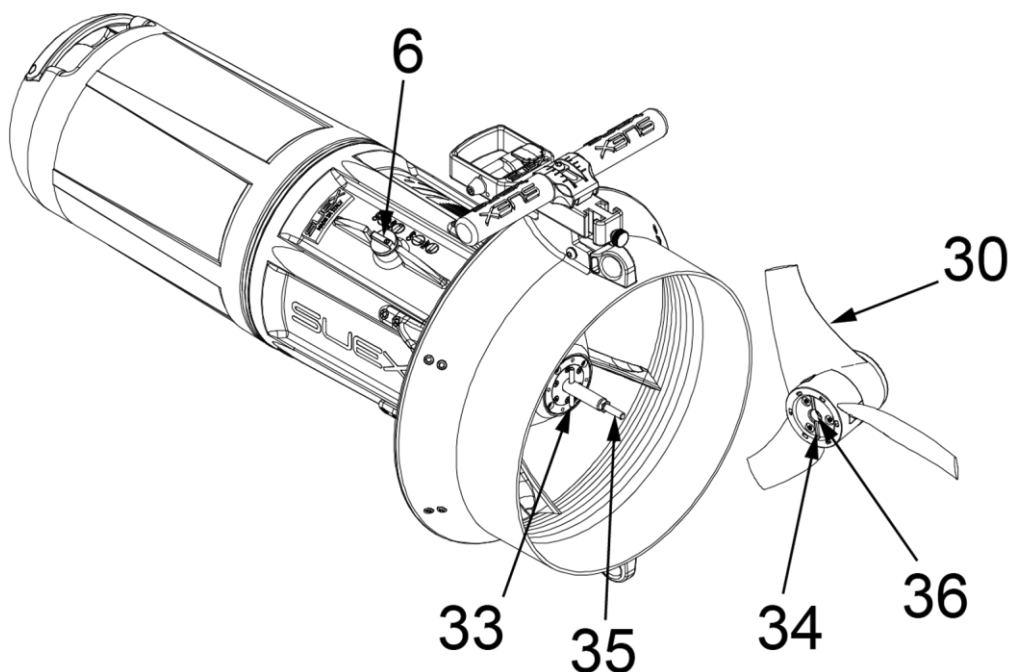

Fig 33 - Propeller insertion
Insert the propeller (hole 36 - **Fig 33 - on p. 40**) in motor shaft of the Scooter (35), turn the propeller (clockwise) until the pin (33) matches the seat (34) propeller. When you hear a click, the propeller will stop turning.